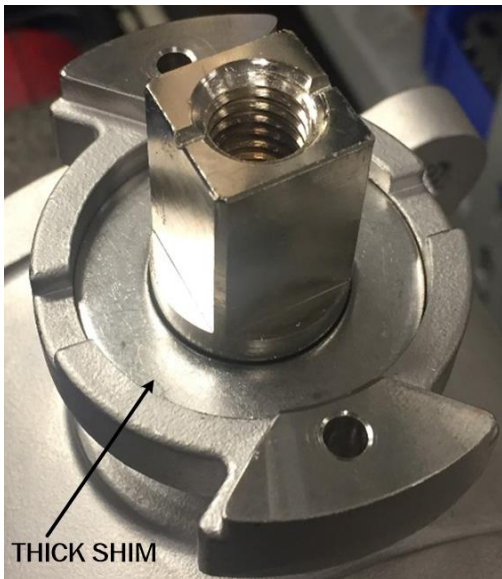

Figure 3.
- 3) Place thick shim on top of valve stem insulator bushing. See Figure 3.